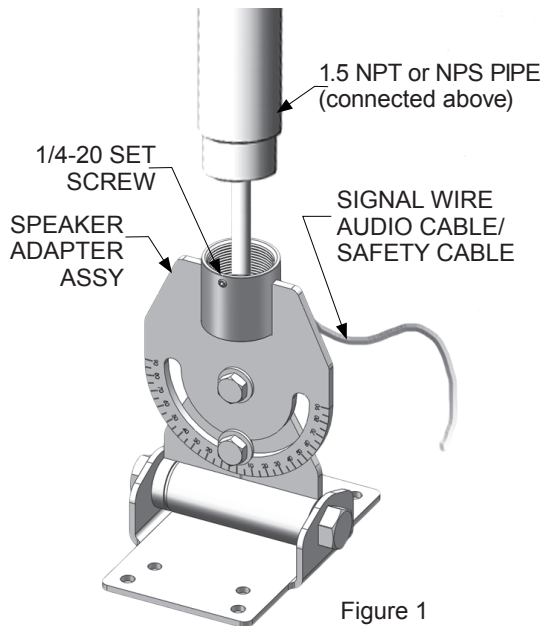

Figure 1
Step 1: A 1.5 NPT or NPS pipe should already been installed from the ceiling before proceeding to attach the MM-3RDX-120 (Figure 1).
Step 2: Attach MM-3RDX-120 to 1.5 NPT or NPS pipe, then lock with set screw (Figure 1).